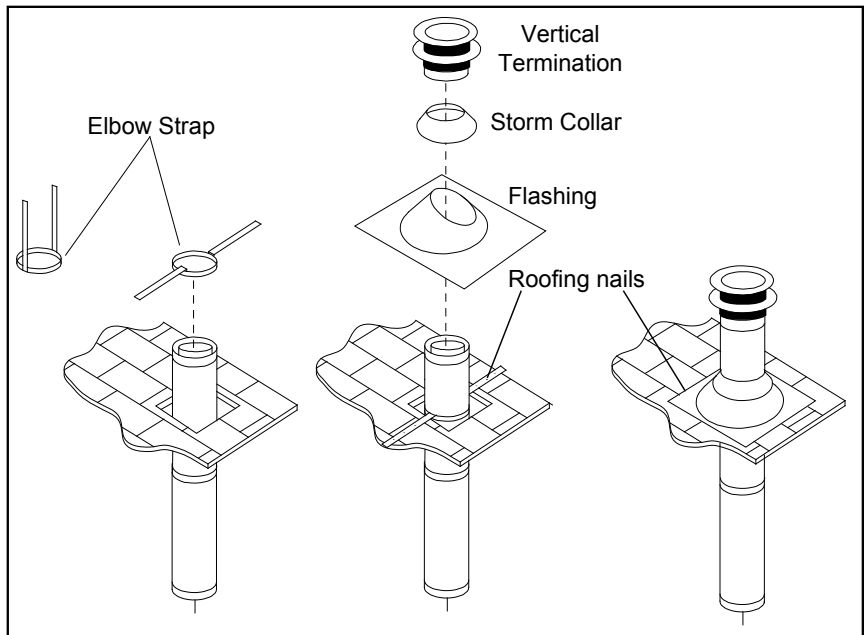

Figure 15: Vertical Vent Termination Installation.
STEP 6. Once the pipe sections have been joined, and run up through the hole in the roof, slip an elbow strap over the exposed sections, bend the support straps outwards, and push the elbow strap down to the roof level, as shown in Figure 15. Tighten the clamp around the pipe section. Use a level to make sure the pipe is truly vertical. With roofing nails, secure the support straps to the roof. Seal the nail holes with non-hardening mastic. Trim the excess length of the support straps that extend out beyond the edge of the flashing.
STEP 7. Slip the flashing over the pipe section protruding through the roof. Secure the base of the flashing to the roof with roofing nails. Use a non-hardening sealant between the uphill edge of the flashing and the roof. Insure the roofing material overlaps the top edge of the flashing as shown in Figure 15. Verify that you have at least the minimum clearance to combustibles at the roof line.
STEP 9. Slip the storm collar over the pipe, and push it down to the top of the roof flashing as shown in Figure 15. Use the non-hardening sealant around the joint between the pipe and the storm collar.